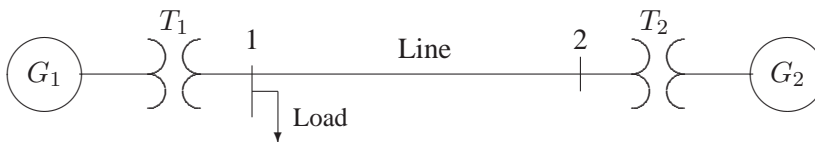

FIGURE 26
3.13. Draw an impedance diagram for the electric power system shown in Figure 26 showing all impedances in per unit on a 100-MVA base. Choose 20 kV as the voltage base for generator. The three-phase power and line-line ratings are given below.